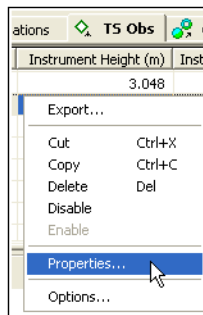

Figure 5-95. Open Properties
1. To add a new instrument type to the instrument list or edit a current instrument type, right-click a TS occupation and click **Properties** on the pop-up menu (Figure 5-95).